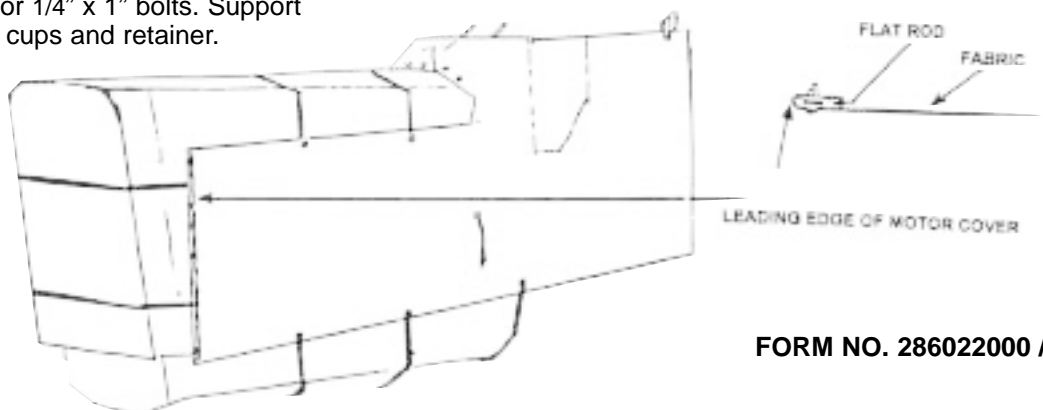

Figure 2
9. Position door in cover to door post, mark location of holes in door post to door in cover. Cut (2) 5/8" slits in door cover to match holes in door post. Bolt door frame in cover to door post using 3/16 x 3/4 bolts, nuts, and F2 clips.
11. Straighten cover to front of tractor to fit length and fold over excess (see Figure 2). Place #710241901 flat rod in between the fabric layers. Cut slits in the fabric layers and place 3/16" x 1/2" bolts through fabric layers and rod. Repeat on other side.